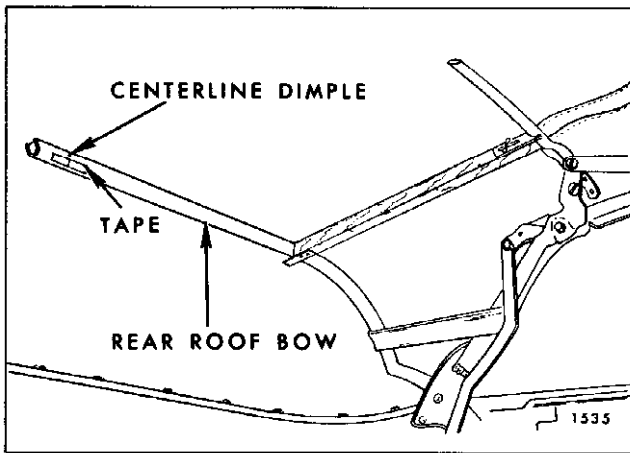

Fig. 13-40 — Marking Rear Roof Bow
5. Along forward surface of rear roof bow install a 1" piece of tape at centerline dimple of rear roof bow. Using a pencil, mark centerline of rear bow on tape (Fig. 13-40).
**NOTE:** The deck seam mark will vary slightly ( $\pm 1/4''$ ) depending upon position of rear roof bow. Also check centerline mark on inner lining of top material. Mark should correspond to centerline mark on rear roof bow. (Fig. 13-40).